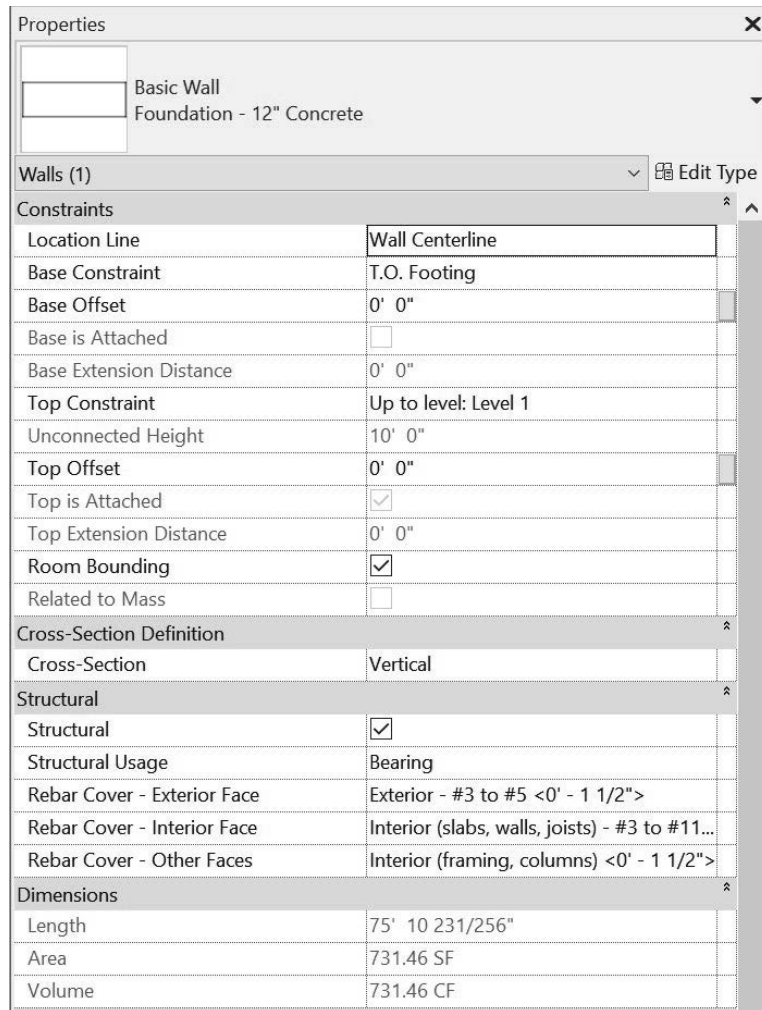

Figure 7–2
- The *Cross-Section* for the basic wall category can be modified to be **Vertical**, **Slanted**, or **Tapered**, as shown in Figure 7–2.